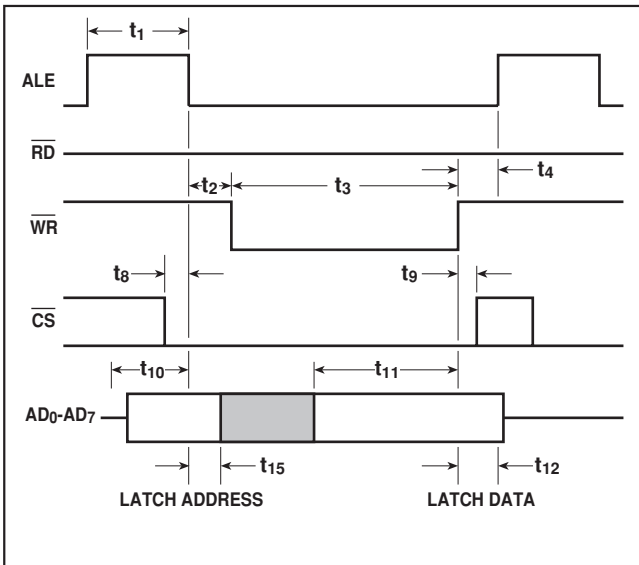

Fig. 4 Intel bus timing definitions
**Intel Mode (Fig. 4 and Table 1)**